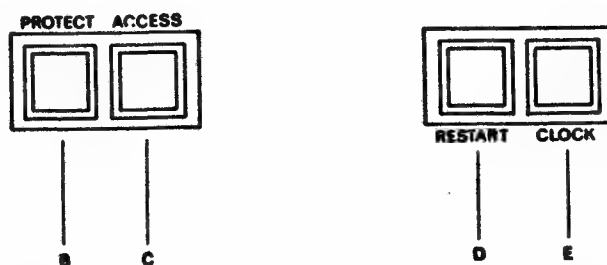

Figure 3-1
On 14-inch drives (refer Figure 3-1), there is only one set of the Protect and Access buttons (B & C), and the Power key (A) is situated below the Magtape controls.